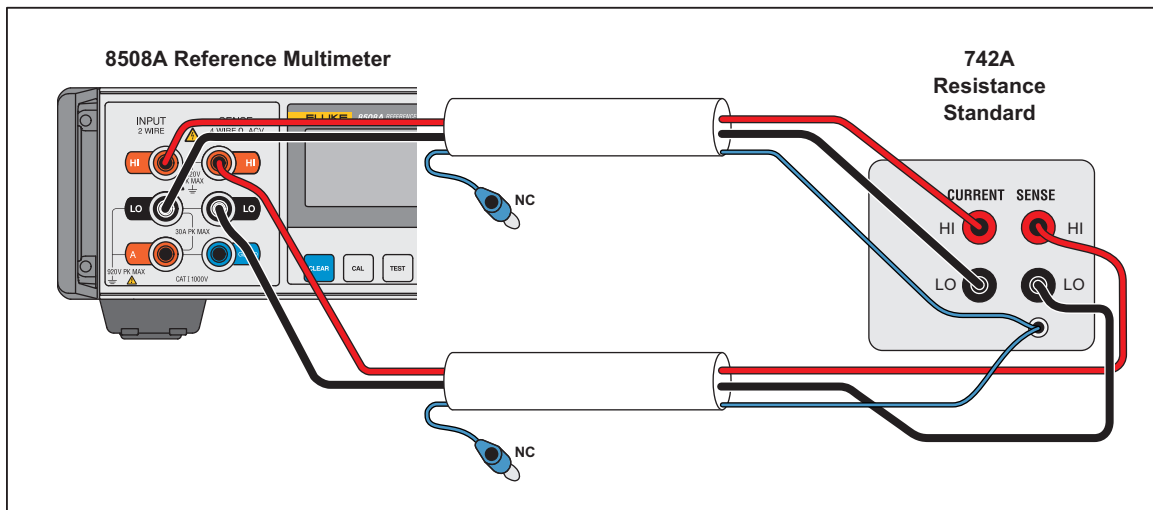

Figure 11. 10  $\Omega$  through 19 M $\Omega$  Resistance Verification
4. Connect the DMM to the first or next resistance standard (742A) given in Table 6 using the 5730A-7003 cables as shown in Figure 11.